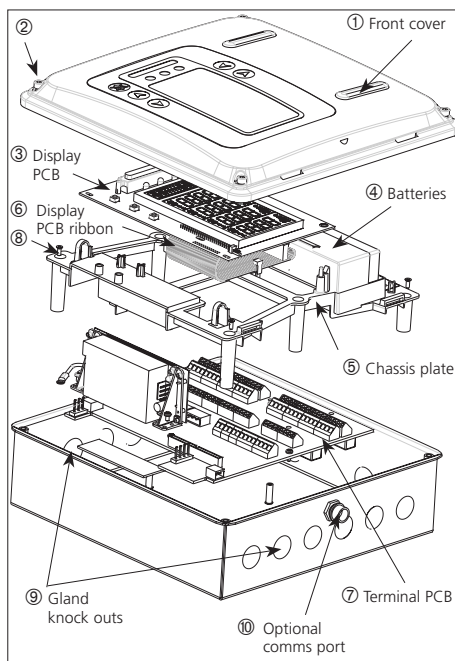
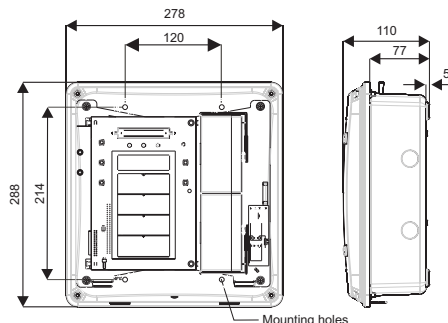

Figure 2.1 Exploded view of Gasmaster
Figure 2.3 Dimensional view of Gasmaster with mounting holes shown
This section describes how to get started with a *Gasmaster 4* or *Gasmaster 1* system that has been pre-configured for the detectors supplied. Figures 2.1, 2.2 and 2.5 show the internal structure of Gasmaster.
Figure 2.1 shows the internal arrangement of a Gasmaster system. The front cover ① is removed by unscrewing the four screws ② and carefully disconnecting the two-pole sounder connector from the display PCB ③. The front cover should then be placed in a safe location. With the front cover removed the chassis plate ⑤ is accessible which supports the display PCB ③ and batteries ④. Below the chassis plate is the terminal PCB ⑦ which contains all the input and output terminals and power terminals. The display PCB ③ is connected to the terminal PCB ⑦ via a 50-way ribbon connector, and is hinged on the left side so that it can be moved to provide access to the detector input terminals. Most terminals are accessible once the display PCB is moved and the batteries ④ are removed, however if necessary the chassis plate can be removed for easier terminal access by carefully disconnecting the display PCB ribbon connector from the terminal PCB and unscrewing the four fixings ⑧. Care should be taken when
Figure 2.3 provides a dimensional view of Gasmaster. To access the mounting points, first remove the front cover by unscrewing the fixings labelled ② in figure 2.1. Carefully remove the